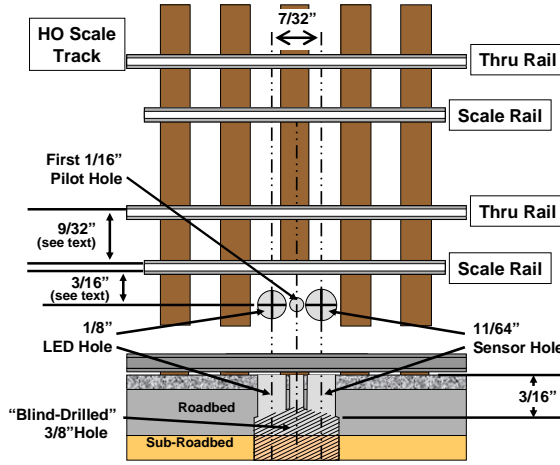

Figure 3: Detector Installation for Gantlet Track
- b. If you are installing as an HO gantlet track, install the Detector as shown in Figure 3, following the steps in the Detector instructions.